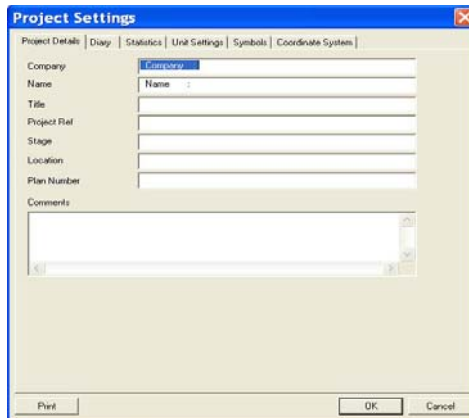

Figure 8-3. Project Settings – Project Details Tab
2. On the *Project Settings* dialog box (Figure 8-2 on page 8-2), press on the *Project Details* tab (Figure 8-3) to complete each field. For field descriptions, see Table 8-1 on page 8-4.